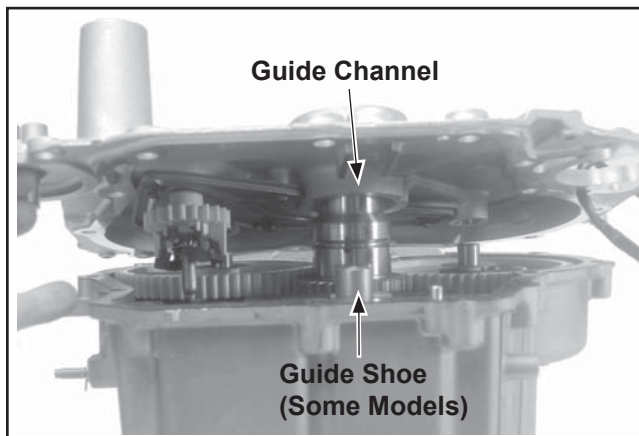

Figure 10-34. Aligning and Installing Closure Plate (Guide Shoe Design Figure 10-14).
2. Ensure the gasket, cover plate, and governor gear assembly, have been properly assembled to the closure plate (refer to Section 9). Start the closure plate onto the crankcase. Be sure the guide shoe (applicable models), is aligned with the guide channel in the closure plate, and the cam shafts and governor gear shaft are aligned with their mating bearing surfaces. See Figure 10-34. As the closure plate is lowered into final position, rotate the crankshaft slightly to help engage the governor gear.